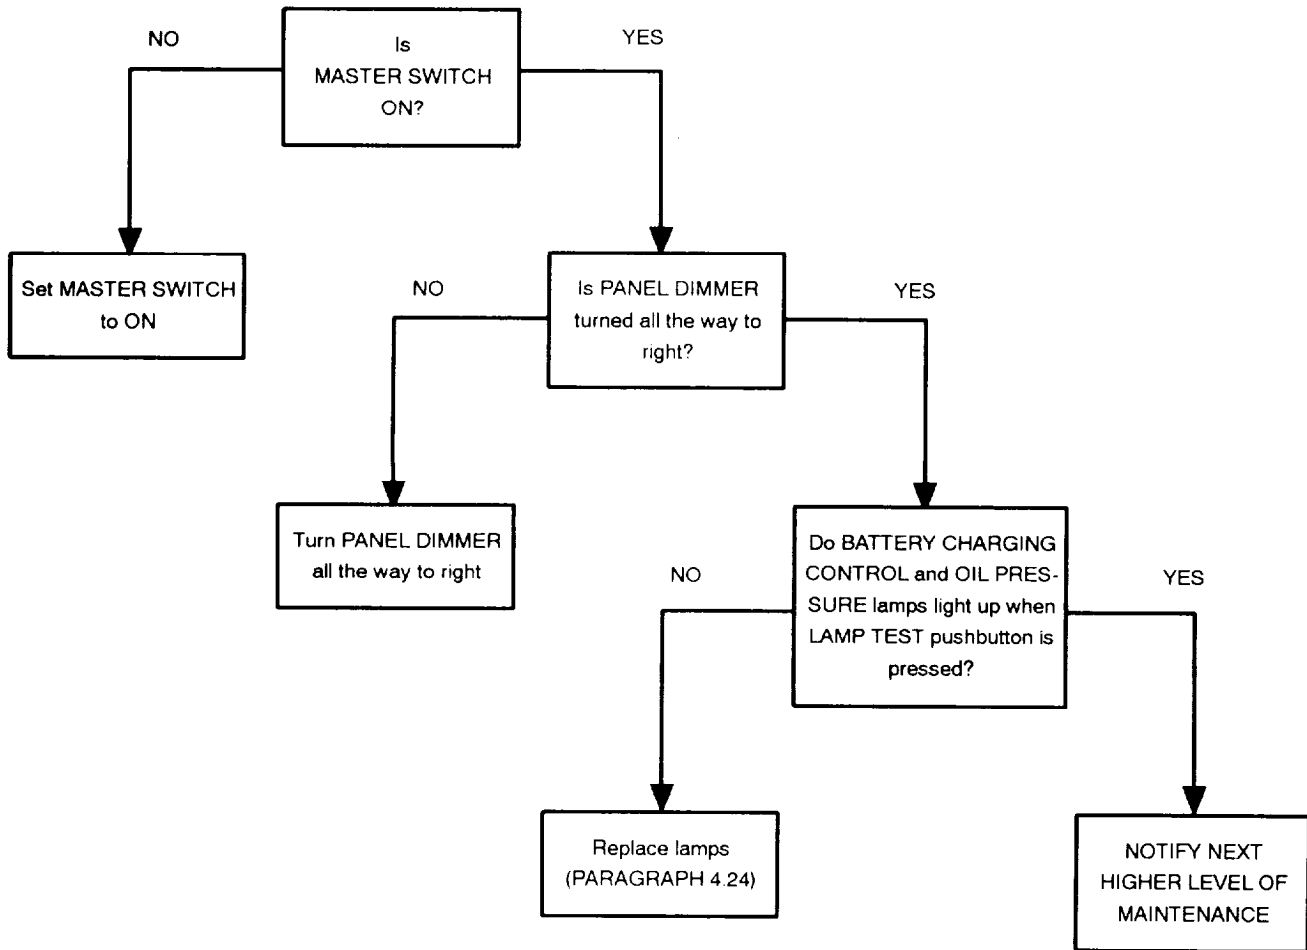

Figure 3-1 BATTERY CHARGING CONTROL and OIL PRESSURE lamps do not light up.
Troubleshoot using figure 3-1 if BATTERY CHARGING CONTROL and OIL PRESSURE lamps do not light up.
- d. Troubleshoot using figure 3-1 if BATTERY CHARGING CONTROL and OIL PRESSURE lamps do not light up.
- e. Turn GLOWPLUG/START rotary switch (5) to GLOWPLUG and hold:
The symptom index for the generator set 150 kW lists faults associated with control cabinet assembly operation. figures 3-1 through 3-7 provide a go/no-go flowchart for each malfunction. Each malfunction listed includes a reference to the applicable figure that contains a chart to help you determine probable causes and corrective actions to take. The symptom index cannot list all faults that may occur, or all the tests, inspections, and corrective actions. If a malfunction is not listed or cannot be corrected by listed corrective actions, notify next higher level of maintenance for assistance.
BATTERY CHARGING CONTROL and OIL PRESSURE lamps do not light up.	Figure 3-1